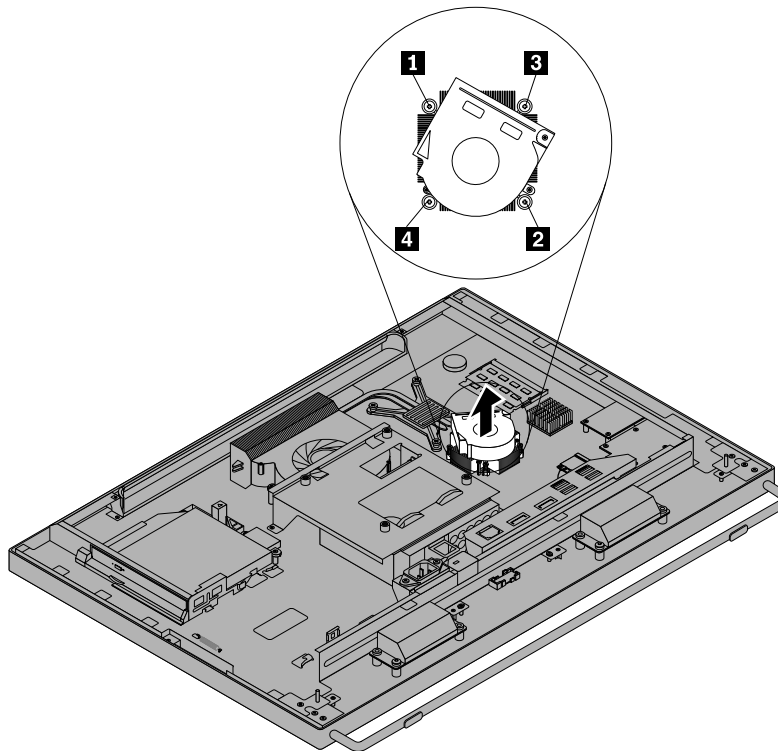

Figure 41. Removing the heat sink and fan assembly for GPU
9. Follow this sequence to install the four screws to secure the heat sink and fan assembly for GPU, as shown in Figure 41 “Removing the heat sink and fan assembly for GPU” on page 62.